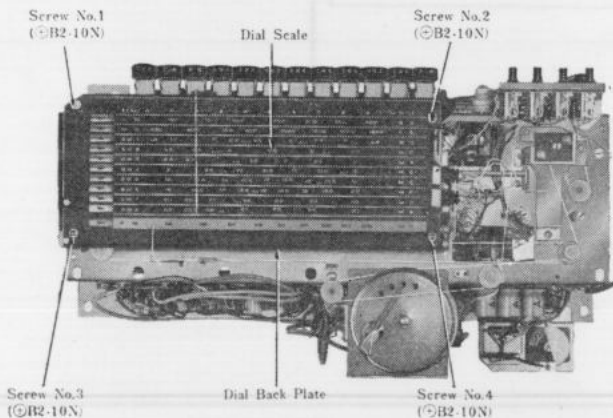

Fig. 3
Replacement of Band Selector Pin (Refer to Figs. 3 & 4)
1. Remove four (4) dial scale & back plate mounting screws, Nos. 1~4, as illustrated in Fig. 3.
To Remove Band Selector Switch (Refer to Figs. 3 & 5~7)
1. Remove four (4) dial scale & back plate mounting screws, Nos. 1~4, as illustrated in Fig. 3, on page 3, and remove dial scale & back plate.